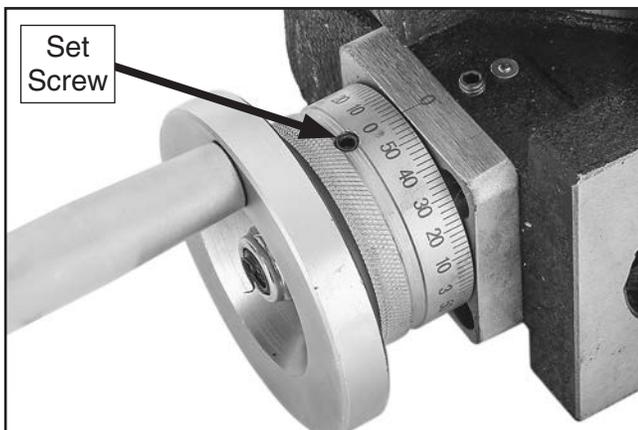

Figure 8. Location of collar set screw.
1. To adjust collar, loosen set screw (see **Figure 8**) securing collar to handwheel, then rotate collar to desired alignment.